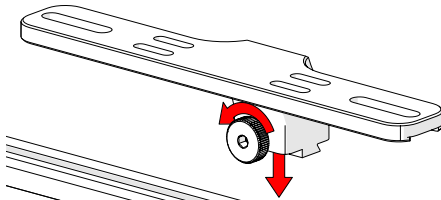

Fig. 98 - Loosen knob and mount to dovetail groove
1. Loosen the knob and align dovetail nut with the dovetail groove (*Fig. 98*).